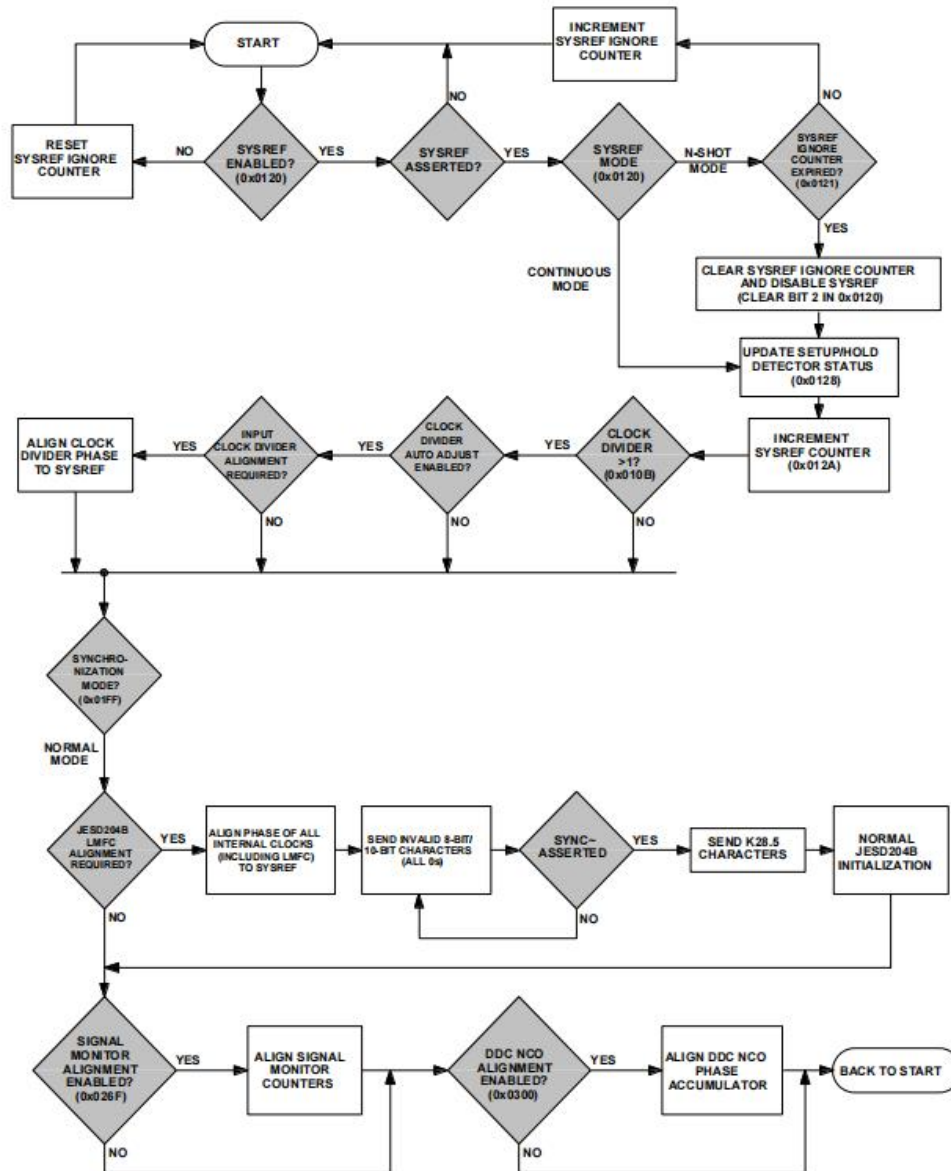

Figure 51 SYSREF ± capture scenario and multi-chip synchronization
FIG. 51 describes CW9689 Internal synchronization of multiple chips
The JESD 204B standard specifies the use of SYSREF ± to provide deterministic The same concept, when applied to a system with multiple converters and logic devices In Figure 51, this synchronization mode is called normal mode. Following the process shown in the flowchart can ensure CW9689 The configuration is correct. Please consult the Intellectual Property (IP) Guide for Logic Device Users to ensure JESD 204B catch The receiving end is configured correctly.